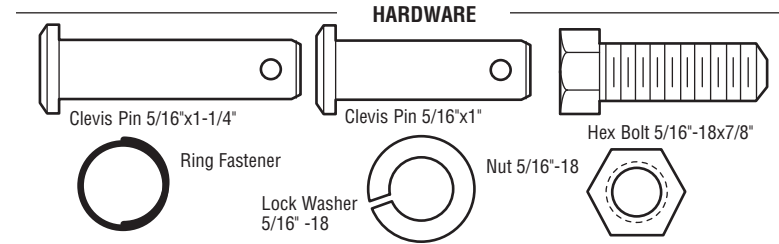

FIGURE 1: Door Closed
Figure 1 shows one piece of angle iron as the horizontal brace. For the vertical brace, 2 pieces of angle iron are used to create a U-shaped support. The best solution is to check with your garage door manufacturer for an opener installation door reinforcement kit.
1. Assemble the door arm, Figure 1: